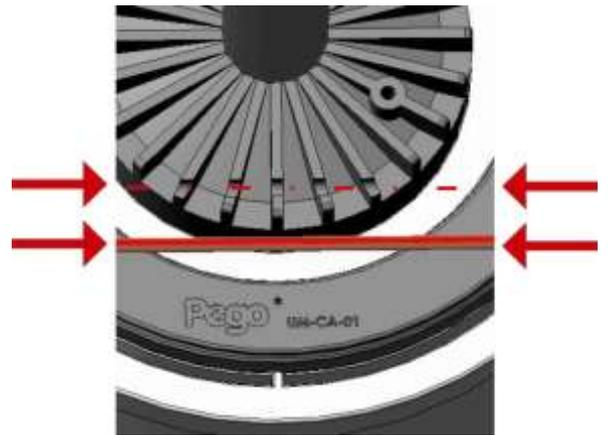

Fig. 36
- C. Slide the top flange on the cylinder by pushing it in place until the end and directing the seat springs in parallel to them (fig. 36).